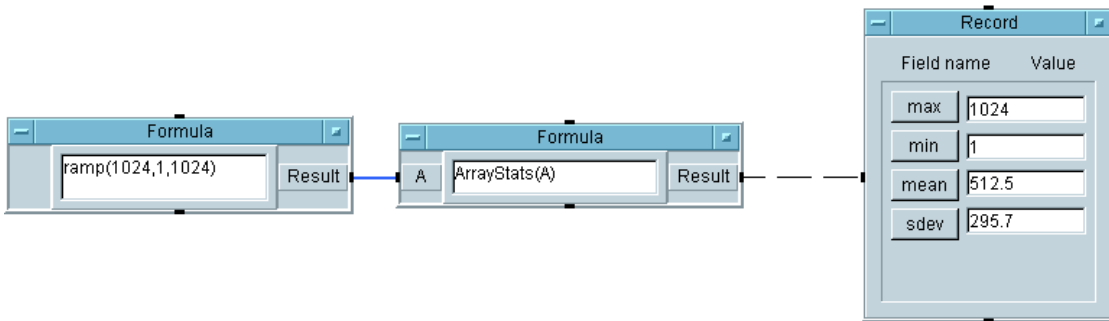

Figure 7-6. Calling the ArrayStats User Function
2. Run the program. It should look like Figure 7-6.
1. In the same example used in Figure 7-6, double-click the `Formula` object `ArrayStats` to delete the object. (You could also select the object menu and select `Cut`.)